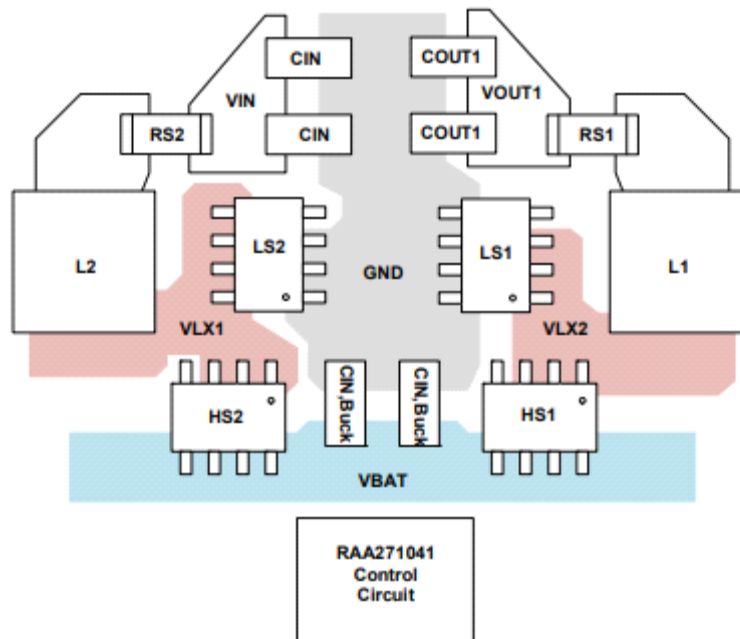

Figure 22. RAA271041 Component Placement Layout Recommendation
- In Figure 22, connect the common connection between input capacitors, output capacitors, and the low-side FET for each buck converter through the central ground (gray) area.
- The first inner layer below the top copper layer with power components should be a ground layer that is complete as possible, as indicated in Figure 22 using the light green fill. This provides a tightly coupled ground return path for the power circuitry. This layer is also used in conjunction with many vias to create a low-impedance connection from the common power GND region to the ISL78264 controller, and the thermal pad is connected to this plane using multiple vias.
- Each converter has ISNS connections that should be routed as shown in Figure 22. The ISNS traces are routed on the second inner layer, which is shielded from power switching currents by the ground area on the inner layer 1. Begin the ISNS traces as a kelvin connection through a via in the center of the sense resistor in each converter.